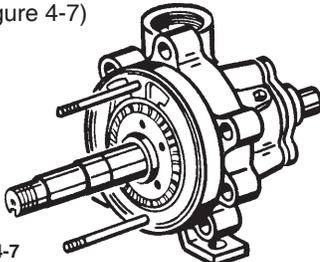

Figure 4-7
- Next put a key (#23) into the keyway in the shaft and slide an impeller (#11BI) over it. (refer to figure 4-7)